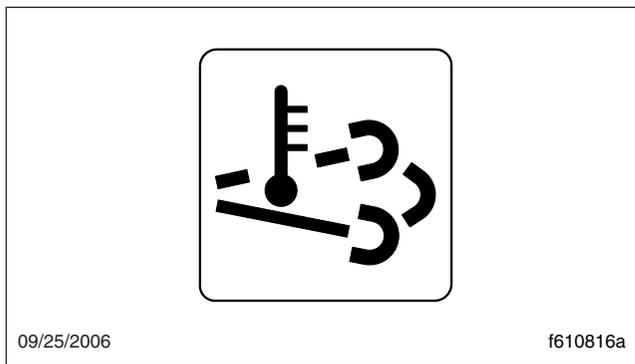

Fig. 4.2, High Exhaust System Temperature (HEST) Lamp
- A slow, 10-second flashing of the high exhaust system temperature (HEST) lamp alerts the driver that a parked regen is in progress, but the exhaust temperatures are still relatively cool. It also indicates that the high-idle speed is being controlled by the engine software, not the driver. See Fig. 4.2.